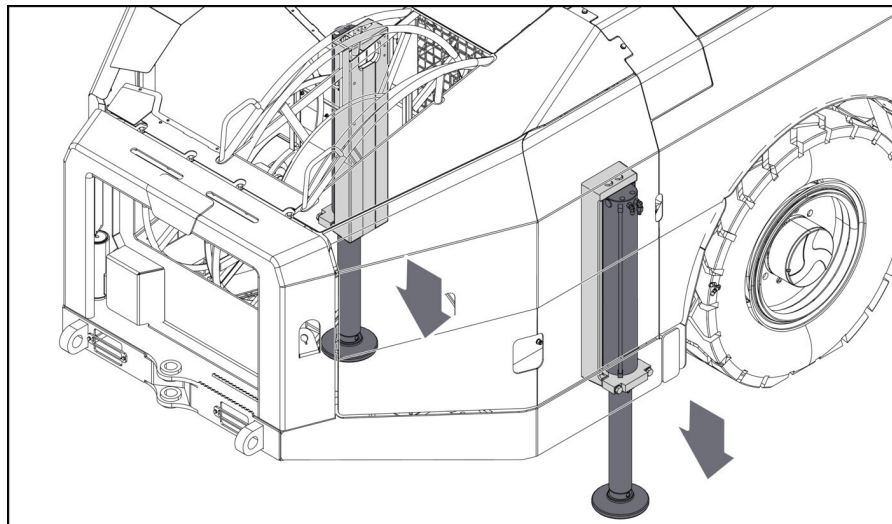

Figure 3
9. Lower the rear jacks onto the ground (Figure 3).